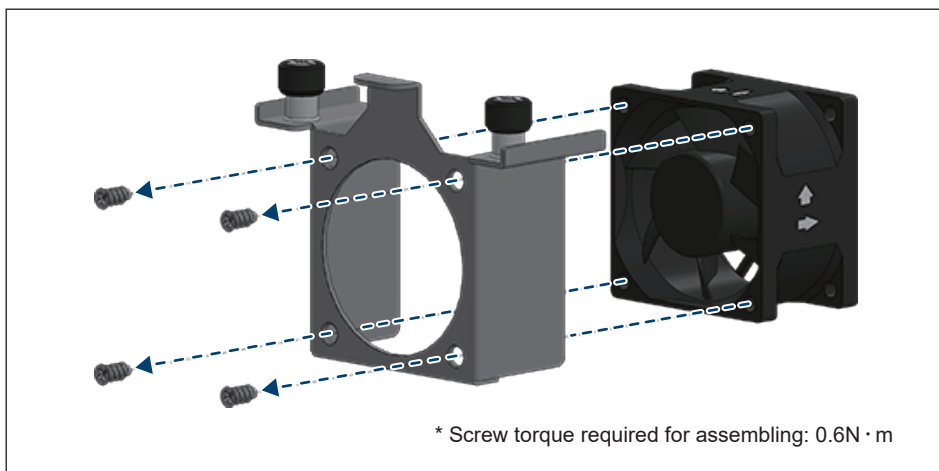

Figure 5-24: Replace with a new fan
- (5) Clean assembly or replace with a new fan. (shown in **Figure 5-24**)
- (6) Reassemble using a tightening torque of $2 \text{ N} \cdot \text{m}$.